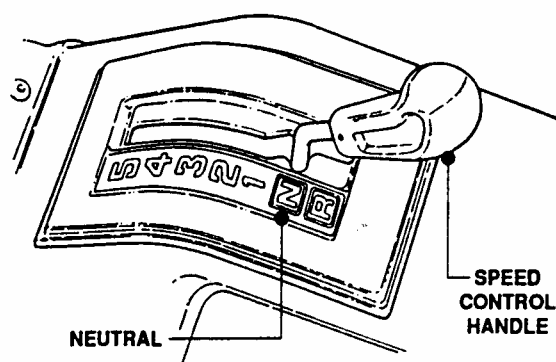

FIGURE 15
Place speed control lever in the neutral (N) position. See Figure 15.